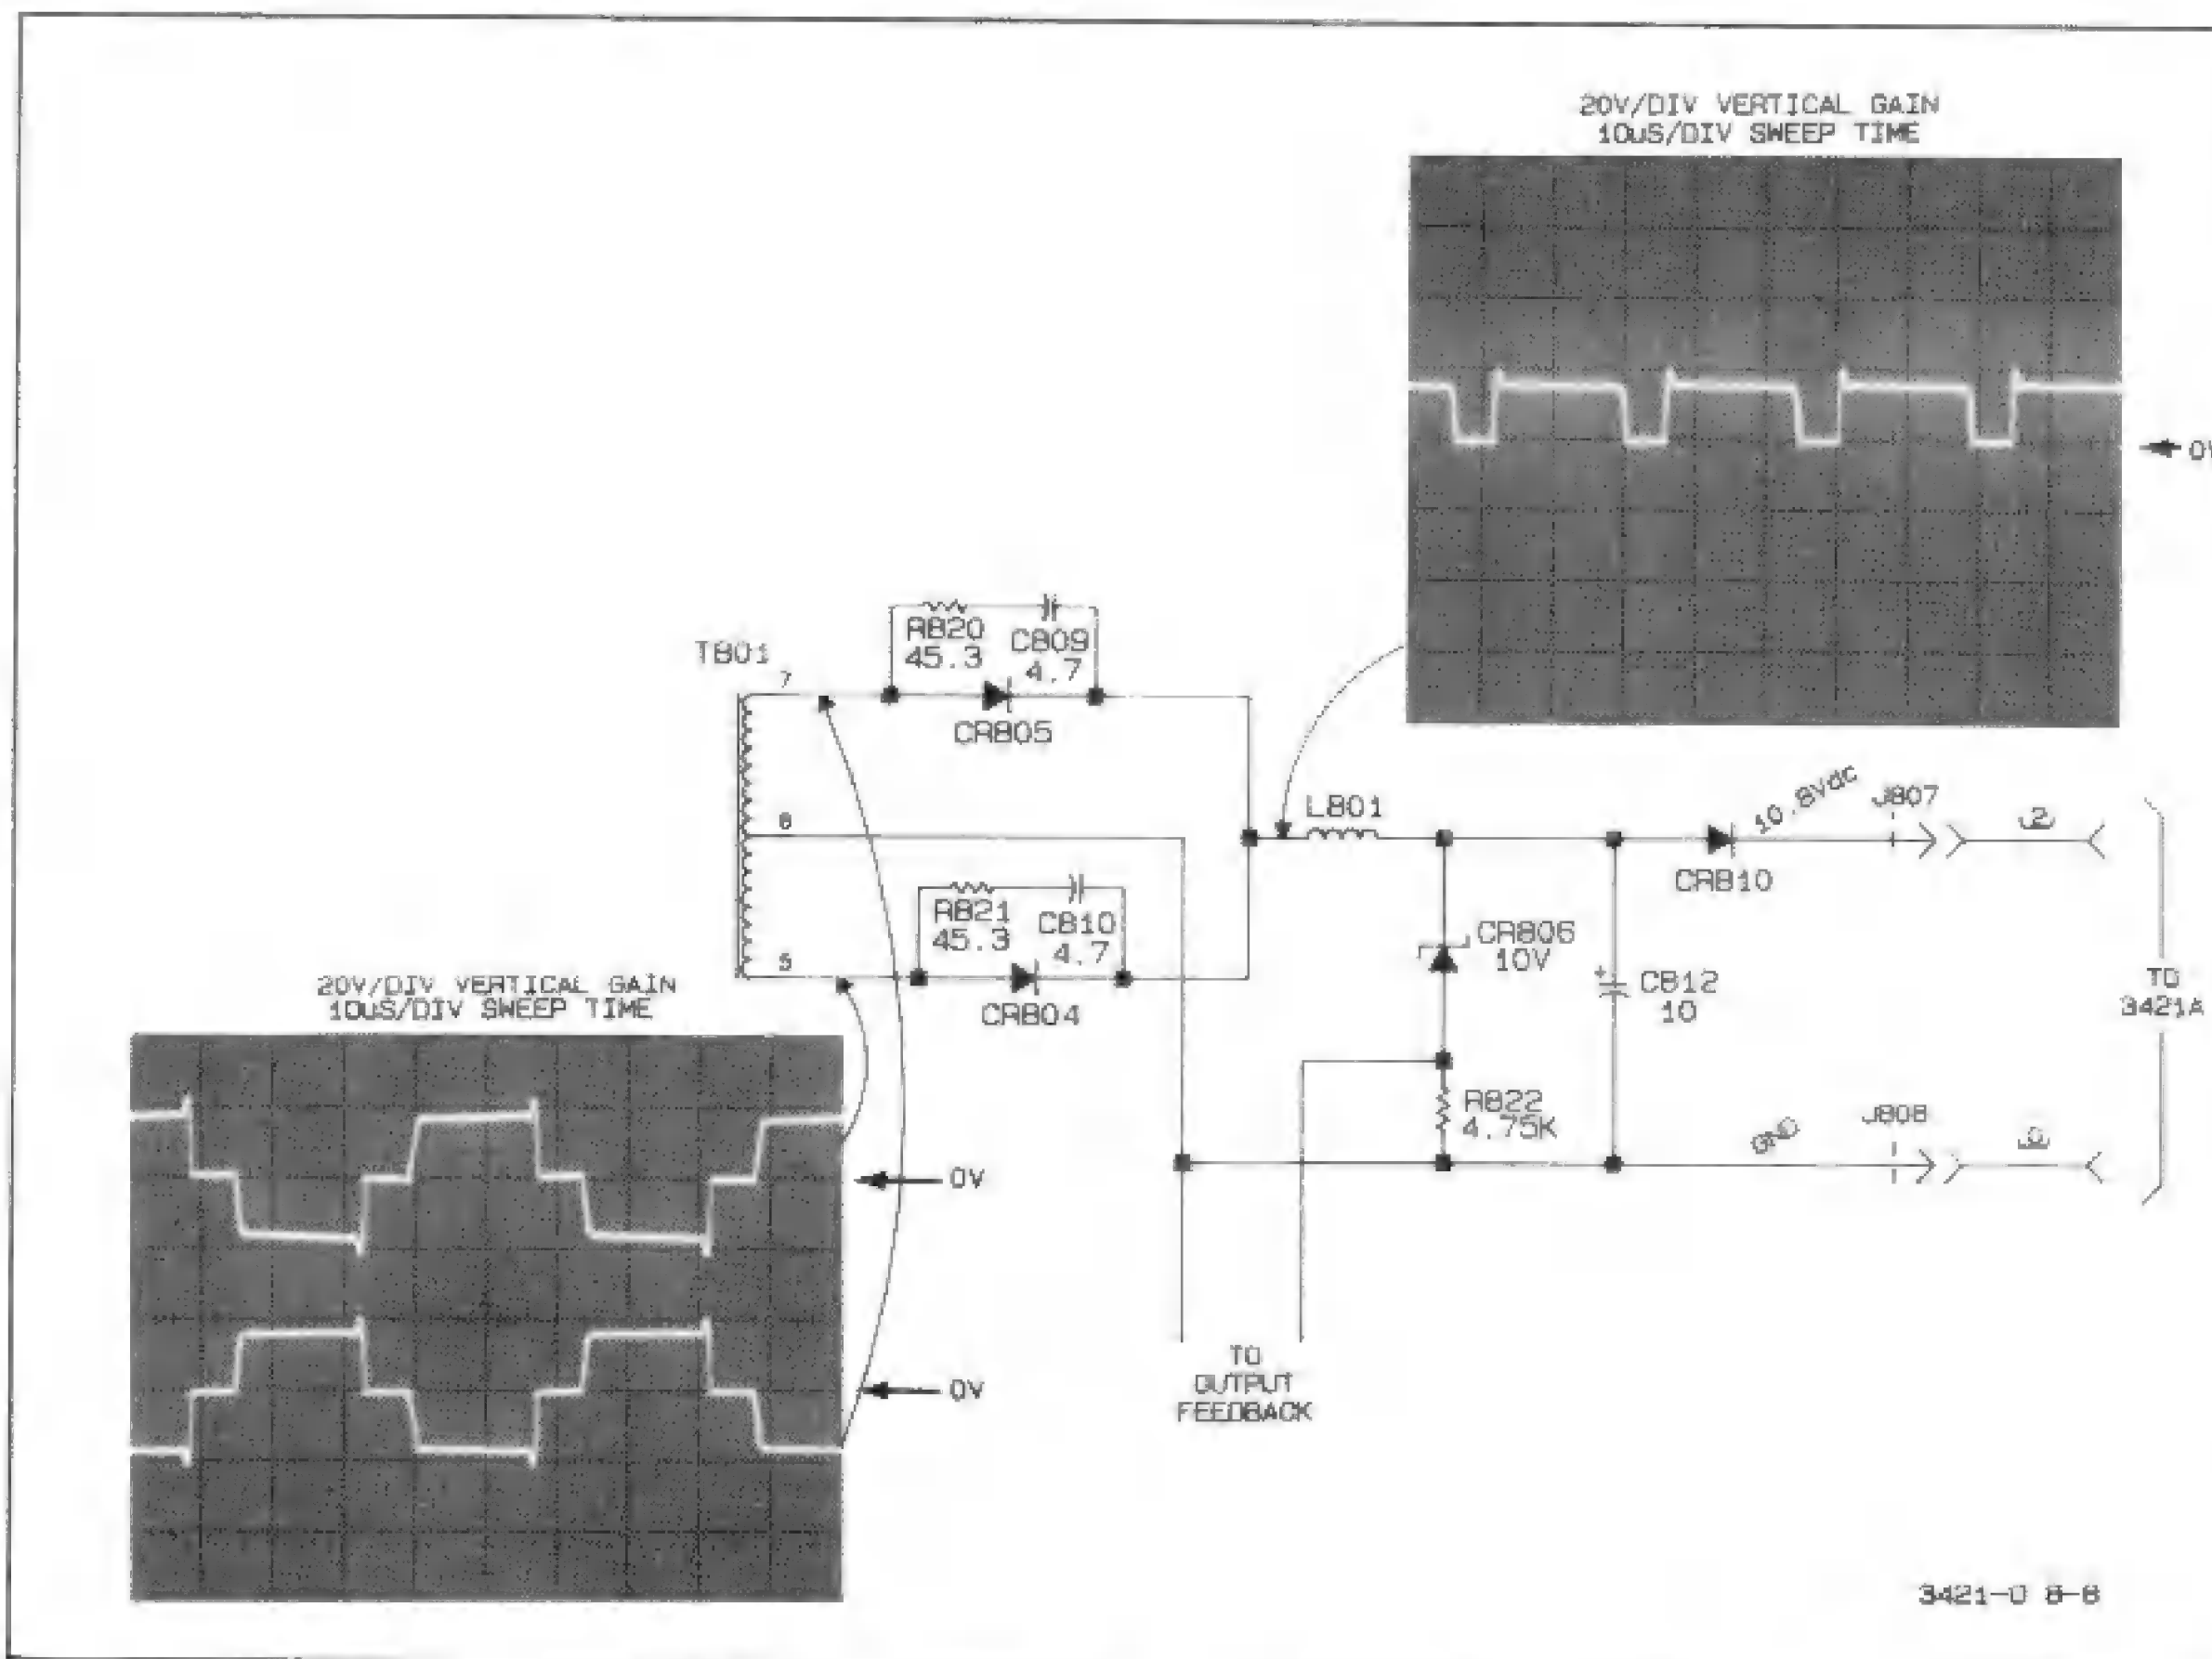

Figure 5-8-8. Output Rectifier and Filter
**5-8-69. Output Rectifier and Filter.** The circuit voltages and waveforms for this circuitry are shown in Figure 5-8-8, and were obtained with the HP 3421A front panel switch on. Remember to reference your text instrument to HP 3421A mainframe ground.